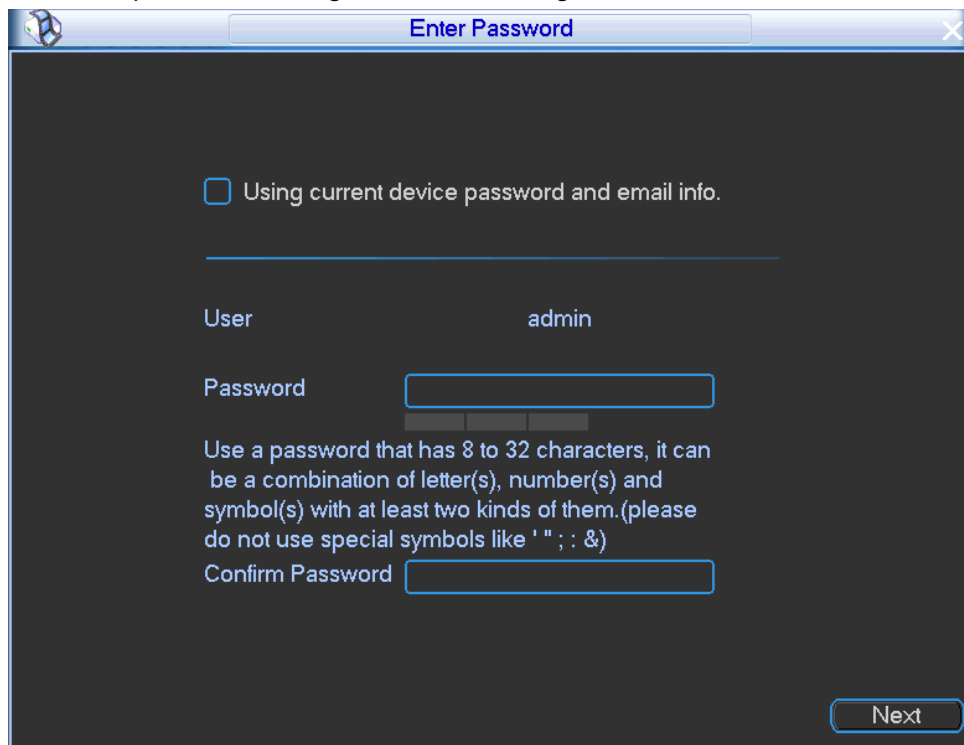

Figure 4-13
1. Cancel using current device password and email information, Enter password setting interface. See Figure 4-13.